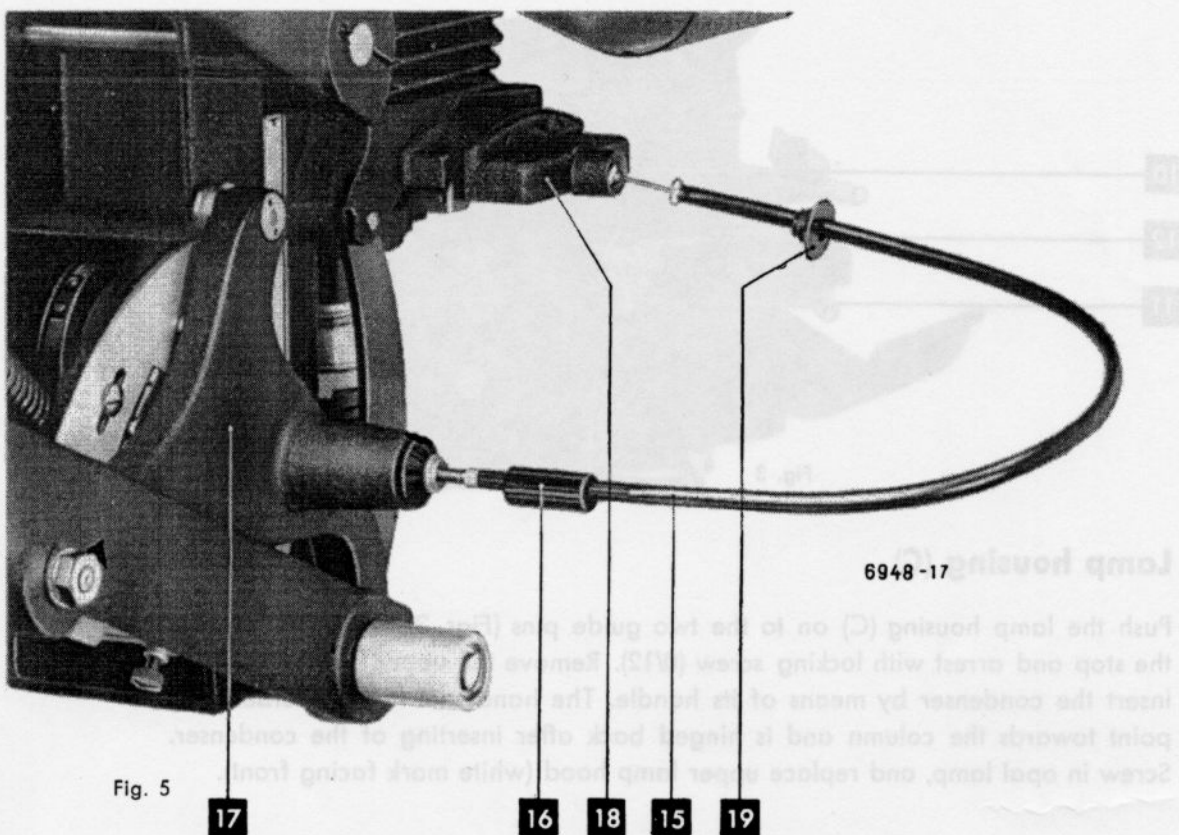

Fig. 5
Screw first the Bowden cable (15 – Fig. 5), then the protecting sleeve (16) into the guide lever. Insert the other end of the Bowden cable into the lens guide where it is secured with a knurled screw.